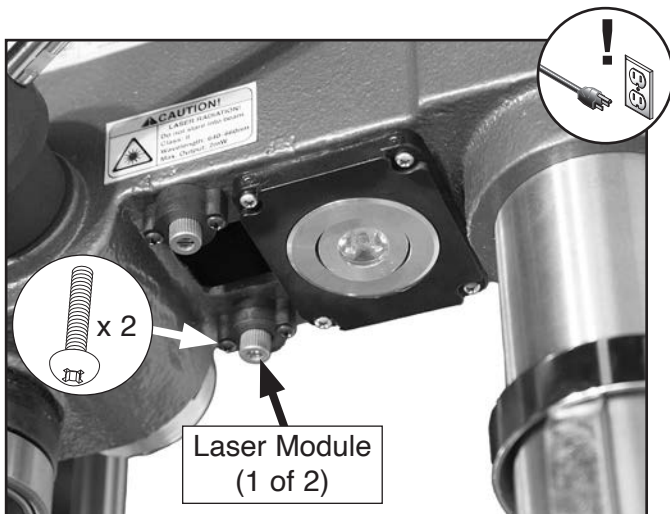

Figure 68. Laser module removal components.
2. Loosen (2) Phillips head screws securing faulty laser module in seat and pull laser module just enough to remove it from seat (see **Figure 68**).